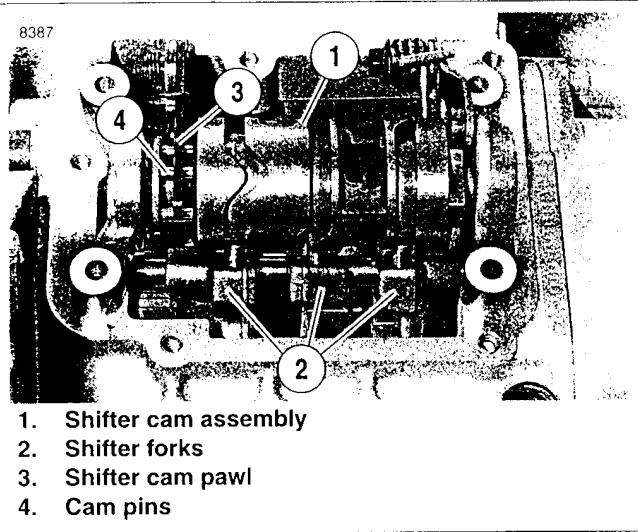

Figure 7-10. Shifter Cam Alignment
2. See Figure 7-10. Lift shifter cam pawl (3) over the cam pins (4). Place shifter cam assembly (1) on transmission case with shifter forks (2) positioned in the slots.